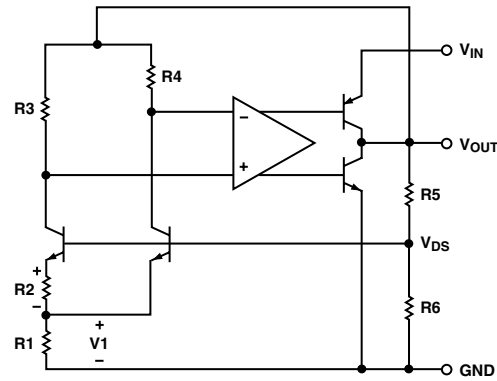

Figure 1. Simplified Schematic
The ADR370 uses the band-gap concept to produce a stable, low temperature coefficient voltage reference suitable for high accuracy data acquisition components and systems. This device makes use of underlying temperature characteristics of a silicon transistor's base-emitter voltage ( $V_{BE}$ ) in the forward biased operating region. Under this condition, all such transistors have a  $-2 \text{ mV}/^\circ\text{C}$  temperature coefficient (TC) and a  $V_{BE}$  that, when extrapolated to absolute zero, 0 K, (with collector current proportional to absolute temperature) approximates the silicon band-gap voltage. By summing a voltage that has an equal and opposite temperature coefficient of  $2 \text{ mV}/^\circ\text{C}$  with a  $V_{BE}$  of a forward biased transistor, an almost zero TC reference can be developed. The simplified circuit diagram in Figure 1 shows how a compensating voltage,  $V_1$ , is achieved by driving two transistors at different current densities and amplifying the resultant  $V_{BE}$  difference ( $\Delta V_{BE}$ , which has a positive TC). The sum ( $V_{BG}$ ) of  $V_{BE}$  and  $V_1$  is then buffered and amplified to produce a stable reference voltage of 2.048 V at the output.